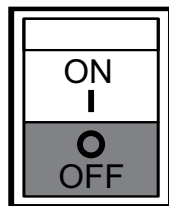

Figure 26. Idle Control switch (OFF)
2. Place idle control switch (Figure 26) in the **OFF** position.